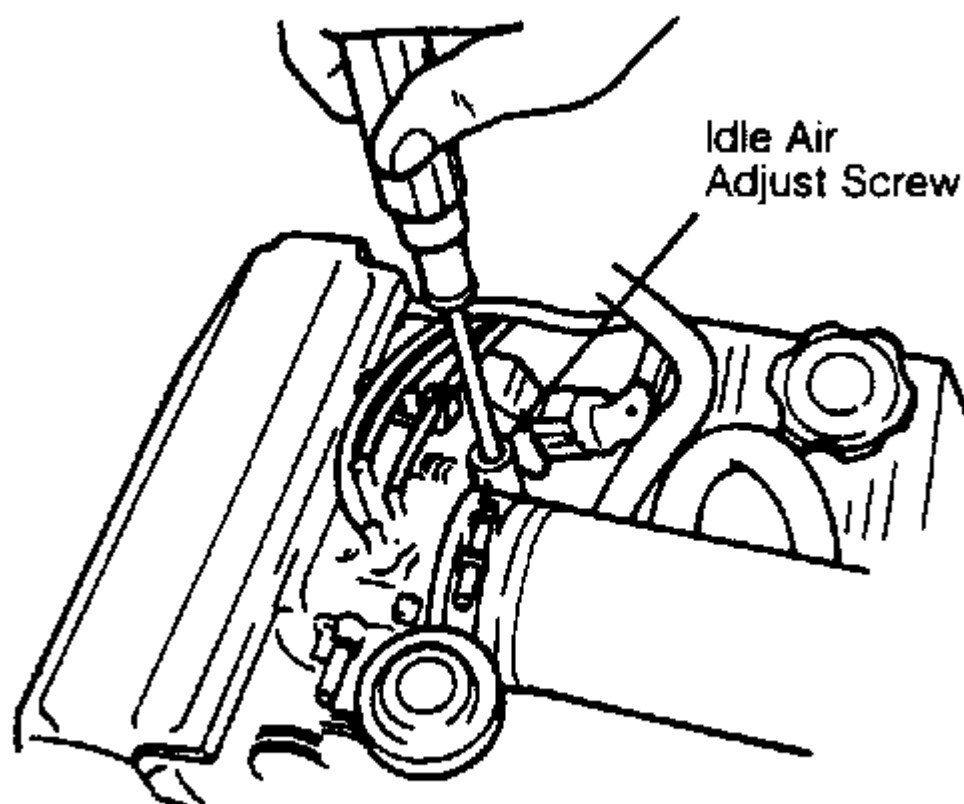

Fig. 2: Locating Idle Air Adjust Screw
2. Locate idle speed control by-pass air (ISC-BPA) valve on intake manifold. Remove cap, and adjust idle speed to specification by turning idle air adjust screw on ISC-BPA valve. See Fig. 2. Remove jumper wire.